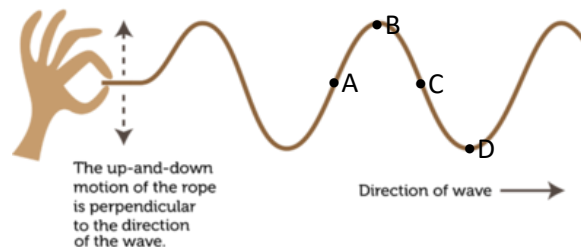
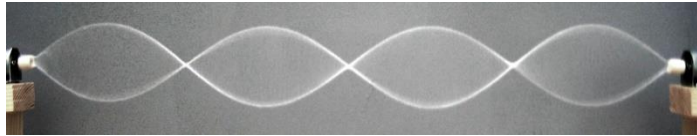

Figure 1: Generating transverse waves on a string
Figure 2: Standing waves on a string.
As shown in Figure 1, when one shakes the end of a level string up and down, the disturbance will propagate along the string, forming **transverse waves**. The term “transverse” means that the direction of wave is perpendicular to the direction of disturbance. The shape of wave can be described by the disturbance (say y coordinate) at a given position on the string (x coordinate) and at an instant t , as $y(x, t)$. If the shaking end undergoes a simple harmonic motion, the wave becomes sinusoidal as
As shown in Figure 2, a **standing wave** is a wave whose shape remains fixed in position over time. Standing waves can be produced by superpos-
- Regarding the transverse wave in Figure 1, what are the moving directions of points A, B, C, and D? (answer "+" for moving up, "-" for moving down, and "0" if not moving)
- Apply the angle sum and difference identities on Eqs. (1) and (2) and derive Eq. (5), which is $y_+(x, t) + y_-(x, t) = 2A \cos(2\pi ft) \sin\left(\frac{2\pi}{\lambda} x\right)$.
- Regarding the standing wave in Figure 2, if you want to decrease the node number by 1 by changing only one of the four quantities—(i) oscillation frequency, (ii) string tension, (iii) string